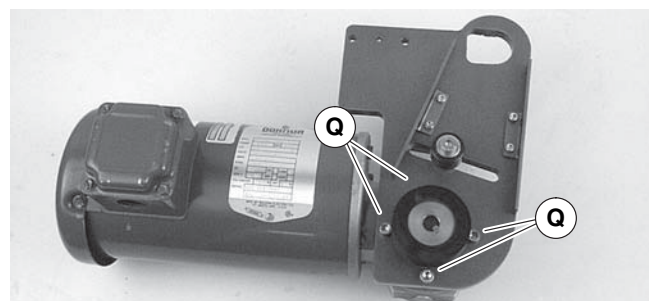

Figure 11
3. If required, change gearmotor position by removing four (4) screws (Figure 11, item Q). Rotate gearmotor to other position and replace screws (Q). Tighten to 103 in-lb (12 N-m).